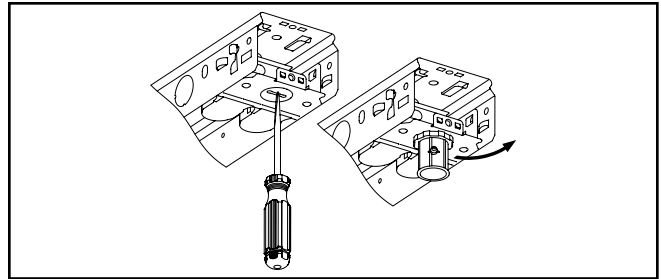

Figure 2.
1. Remove KO and install fitting (Figure 2).